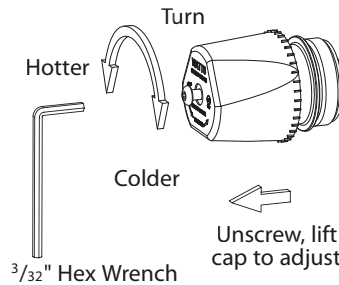

Figure 9.5.0 - Temperature Adjustment
3. To adjust the setting of the valve, loosen locking cap with hex wrench, see figure 9.5.0. Cap must be lifted 1/4" to adjust temperature. To increase the temperature, turn counterclockwise. To decrease temperature, turn clockwise.